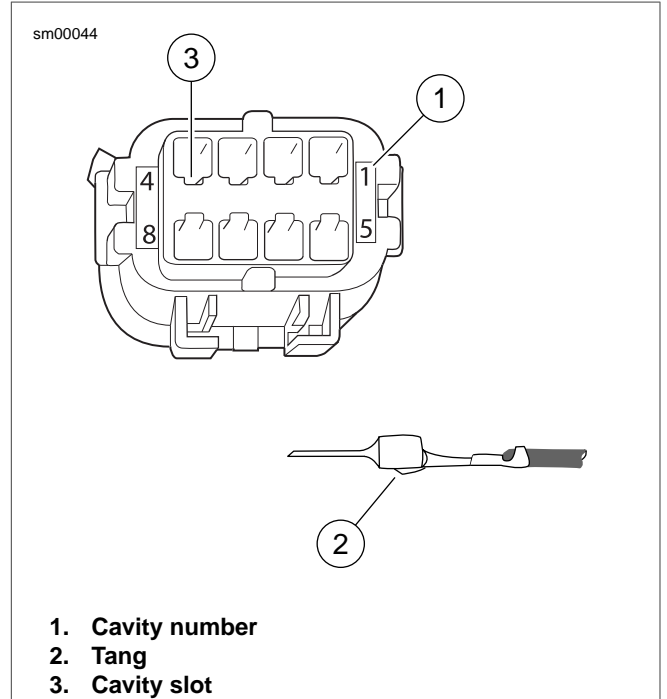

Figure A-29. Molex Connector: Pin Cavities and Wire Terminal
1. See Figure A-29. From the wiring diagram, match the wire color to its numbered terminal cavity.